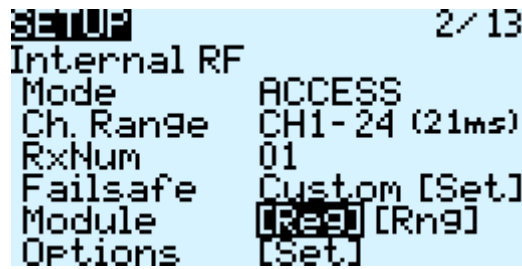

Figure 70: RCU Internal RF
5. Using the ENT knob, scroll down to INTERNAL RF. See figure 70.